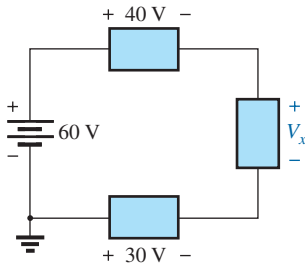

FIG. 5.30
**EXAMPLE 5.11** Using Kirchhoff's voltage law, determine the unknown voltage for the circuit in Fig. 5.30.